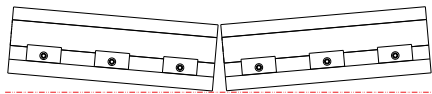

Figure 4
6. **Bend on ends vs. center have tighter radii** – In long bend applications, the ends of material are less restrictive and forces are lower. Segmented benders in smaller lengths will provide increased adjustability. This is known as adjusting the toe-in or out. See (Fig. 4). See setup instructions.